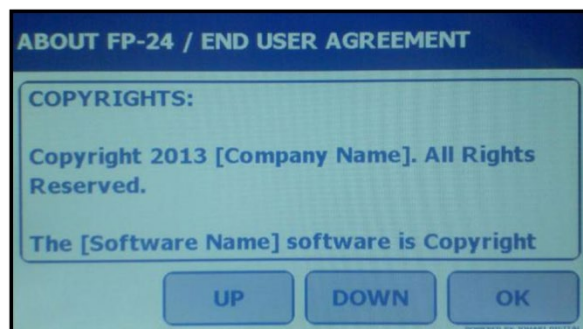

Figure V-22: End User Agreement
2. Press [END USER AGREEMENT] to view the MP Biomedicals End User Agreement \(Figure V-22\). Press the [UP]/[DOWN] buttons to scroll through the text.